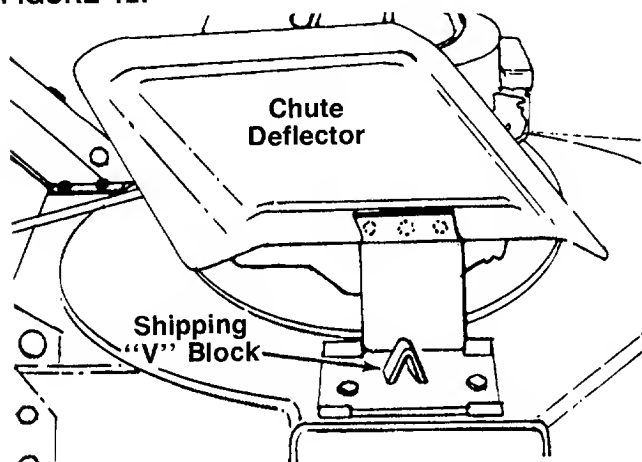

FIGURE 13.
2. The chute deflector on your mower is held in an upright position by a "V" block for shipping purposes only. This "V" block must be removed and discarded before the mower is put into operation. See figure 13.